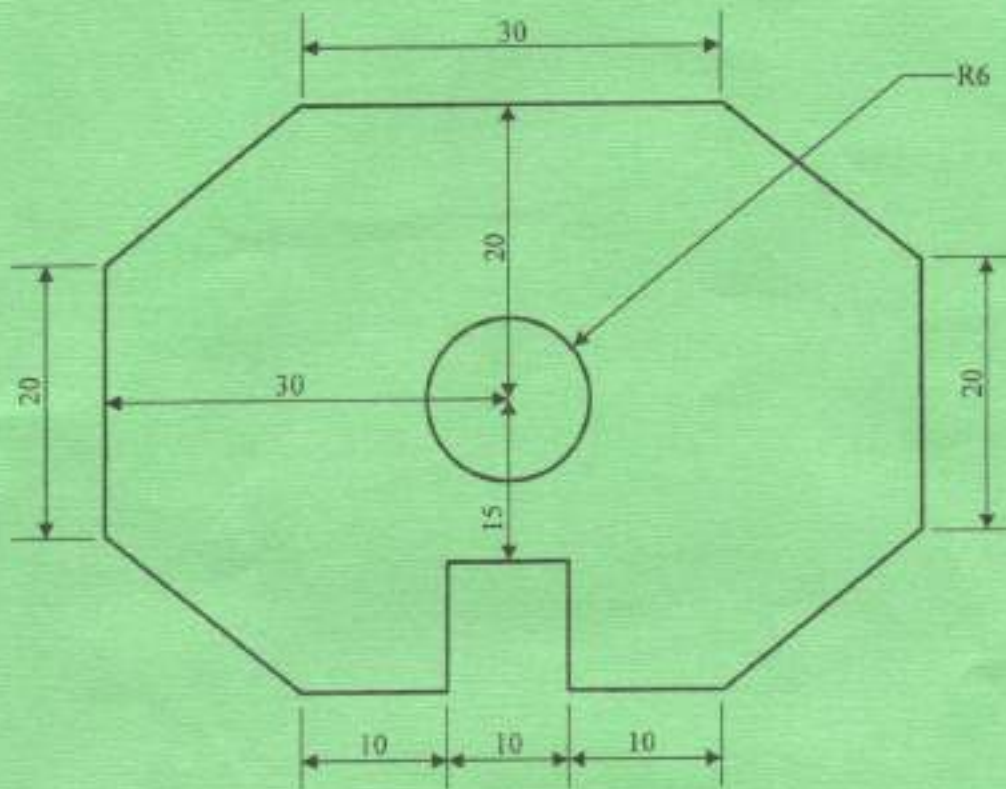

Fig. 5
8. (a) Figure 5 shows one view of an object.